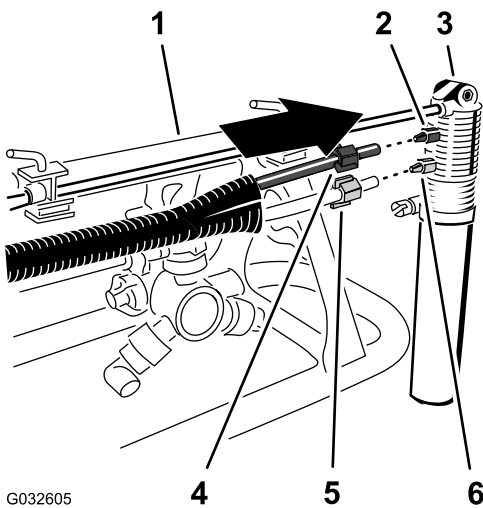

Figure 23
1. Slip the blue compression nut over the ends of blue tube and the white compression nut over the clear tube (Figure 23).
2. Align the end of the clear tube with the white compression nut to the white fitting of the foam-marker nozzle, and tighten the compression nut by hand (Figure 23).
3. Align the end of the blue tube with the blue compression nut to the blue fitting of the foam-marker nozzle, and tighten the compression nut by hand (Figure 23).